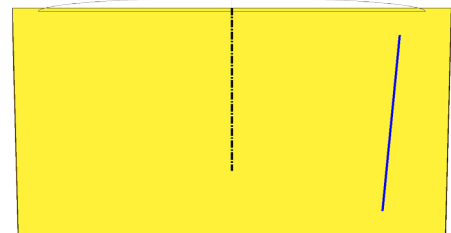

Fig. 34
Step 7. Click **Line**  (L) on the Sketch toolbar.
Step 8. Draw a line at angle somewhat parallel to the right body edge away from any geometry (sketch or edge), **Fig. 34**.